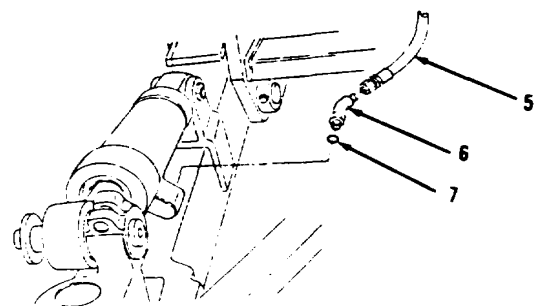

Figure 5-107.
2. Disconnect hose assembly (2).
3. Remove elbow (3) and preformed packing (4). Discard preformed packing (4).
4. Remove hose assembly (5), elbow (6) and preformed packing (7, Figure 5-107). Discard preformed packing (7).